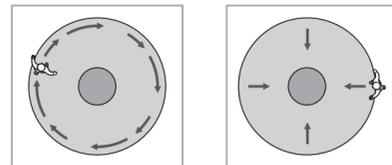

FIG.19
- 5.3.4 Walk from outside across or toward to the detection coverage until LED and load turn on for 2sec (See FIG.19).